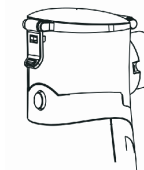

Fig 6
- Open medicine tank by lifting the hook. (Refer to Fig.6, 5)